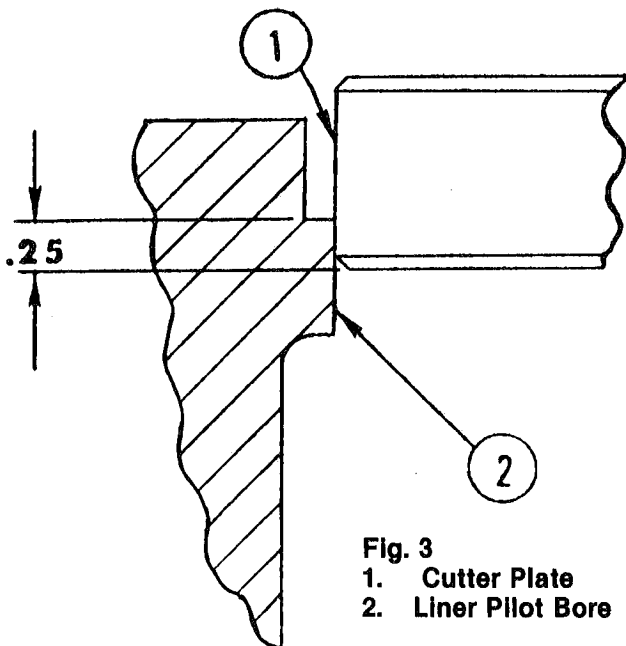

Fig. 3
4. Lower the locating diameter on the cutter plate down into the liner pilot bore adjust the depth set collar until the pilot bore is engaged with liner bore approximately .25" as shown in Fig. 3. Install hold down bolts snug enough to move the plate if necessary. While rotating the bar, tighten the retaining bolts to 50 lb. ft. on "V" engine blocks where the block faces are slanted, push up to neutralize the effect of gravity as the hold down bolts are tightened. The bar should rotate freely after the hold down bolts are torqued.